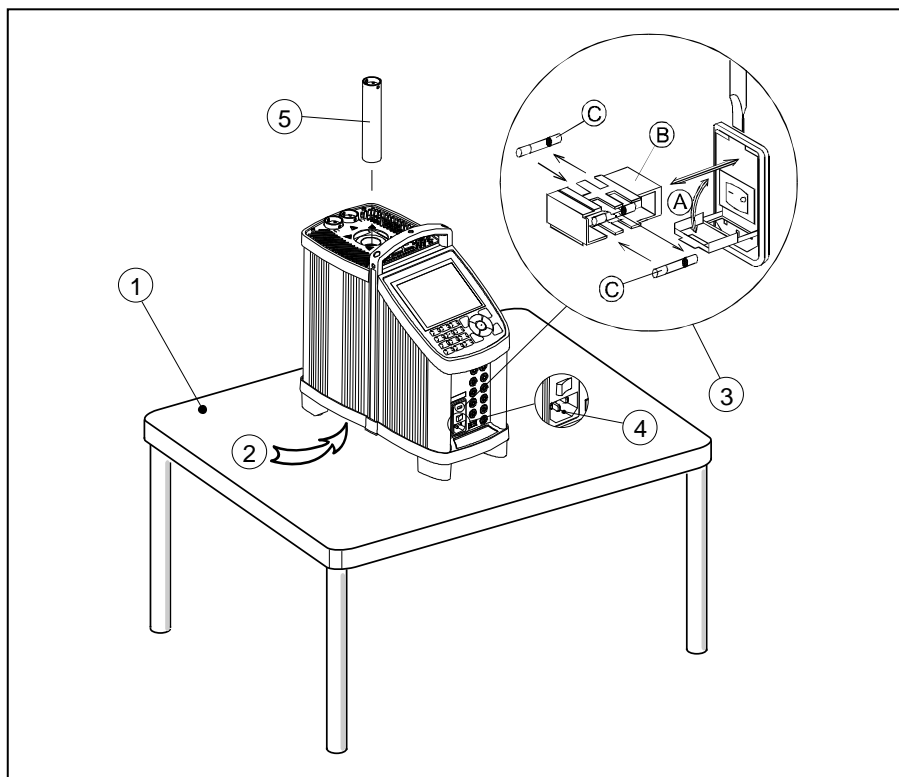

Fig. 1
- ③ Check that the fuse size corresponds to the applied voltage on. The fuse is contained in the power control switch (on/off switch). To check; do as follows (see fig. 1):